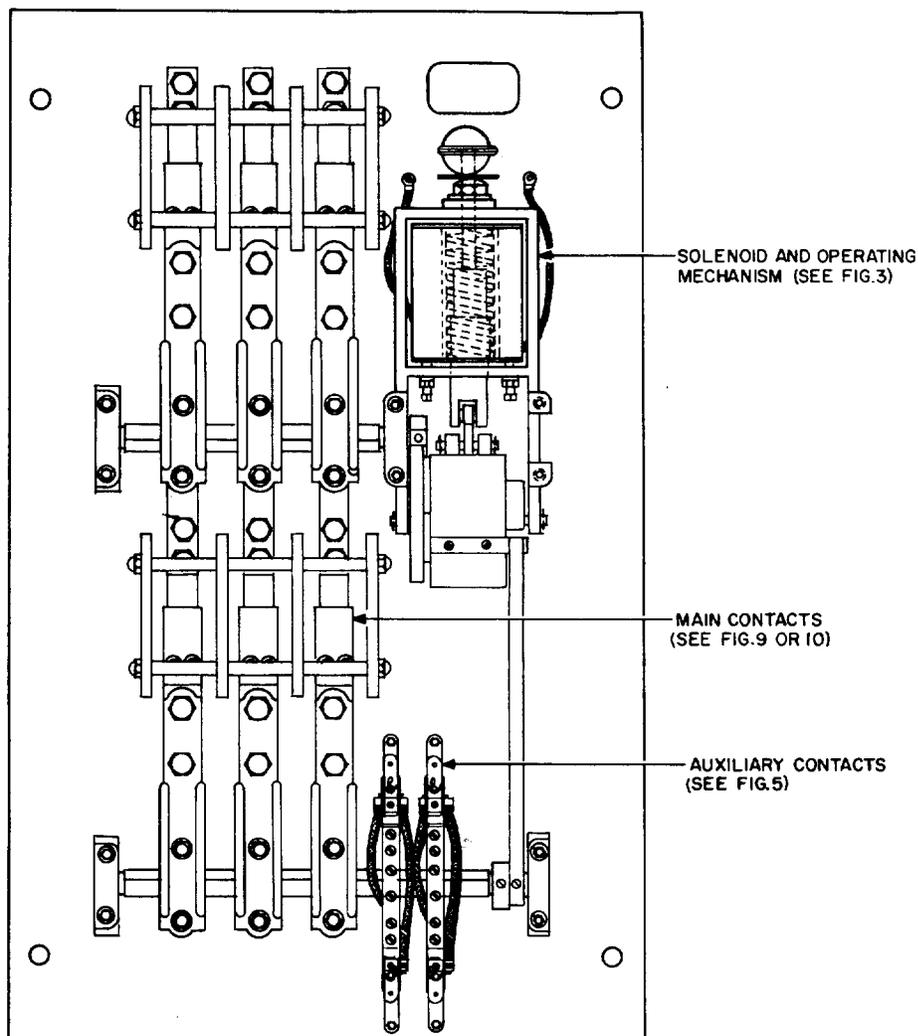

Fig. 2—Typical KS-15514 and KS-15934, 200-, 300-, 400-, and 600-Ampere Contactors
2.06 ♦KS-15934 Contactors (Fig. 2)♦